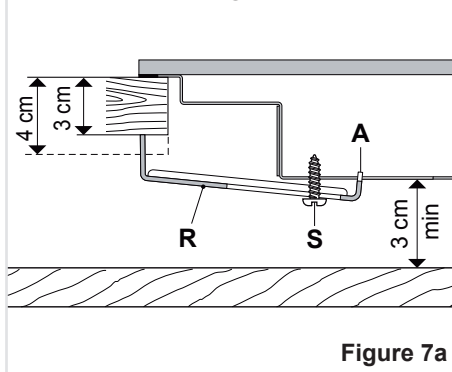

Figure 7a
The kit includes two “**F**” type brackets (for the front of the cooktop), two “**R**” type brackets (for the rear of the cooktop) and four self-threading screws “**S**” (figs. 7a and 7b).
- Put the brackets “**F**” and “**R**” into place; tooth “**A**” of the brackets should go into the hole (figs. 7a and 7b).